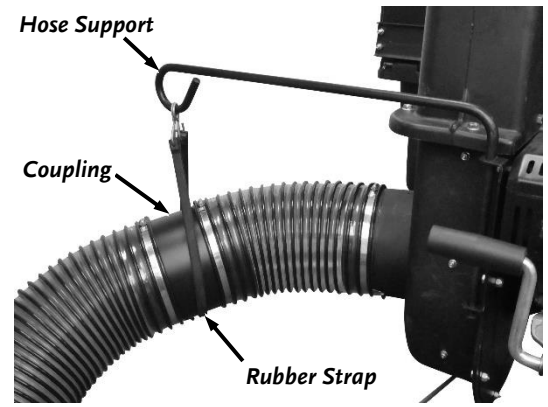

Figure 77
1. Remove the Rubber Bungee from the Hose Support (**Figure 77**).